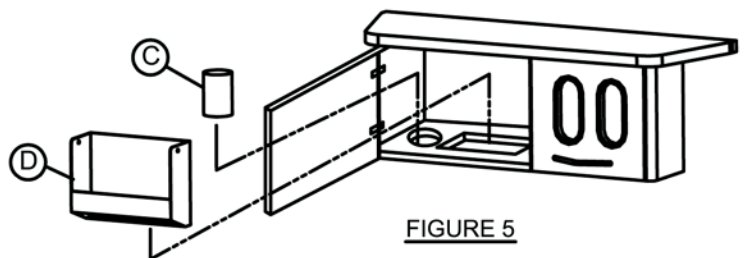

FIGURE 5
Open the left door and insert the cup dispenser (C) through the hole and the towel dispenser (D) through the rectangular cutout. See Figure 5